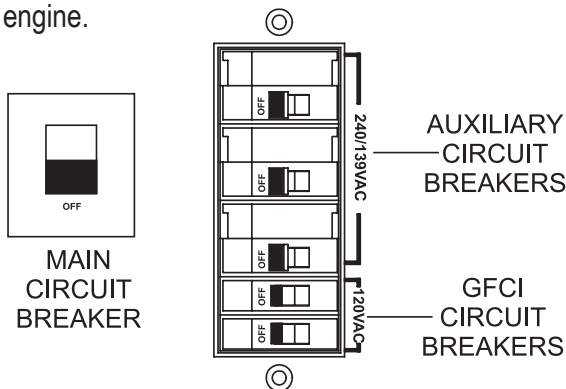

Figure 49. Main, Auxiliary, And GFCI Circuit Breakers (OFF)
2. Place the **main, auxiliary, and GFCI** circuit breakers (Figure 49) in the **OFF** position prior to starting the engine.